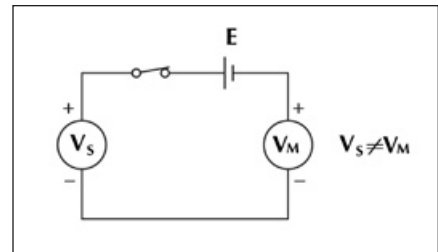
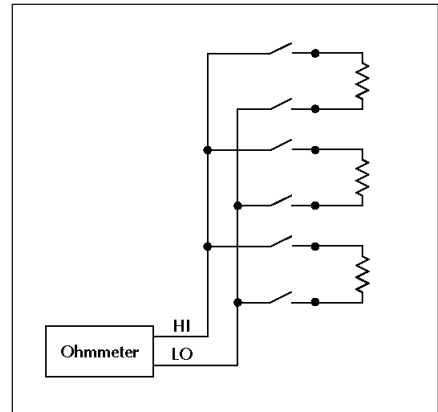

Figure 7: Temperature differences among the different parts of the signal path can introduce voltages through the Seebeck effect.
Figure 8: Two-pole differential switching can help to reduce the effects of thermoelectric potentials.
**Thermoelectric (contact) potentials**—Temperature differences among the different parts of the signal path can introduce voltages through the Seebeck effect (Figure 7). Methods for minimizing this problem include careful selection of materials, control of temperature differentials, and use of 2-pole differential switching (Figure 8). As shown in Figure 9, any potential difference due to the junction of wires to switch in the hot side of the circuit will be cancelled by an equivalent contact potential in the return side. Contact potentials among switching cards can vary from less than 500nV to more than 100 microvolts, so be sure to choose one that matches your needs.